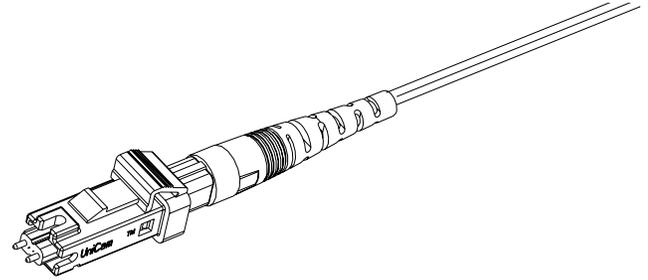

Figure 3-1
**3.1-1** In this chapter you will learn how to assemble a two fiber, field-installable Corning Cable Systems UniCam MT-RJ compatible connector (Figure 3-1).